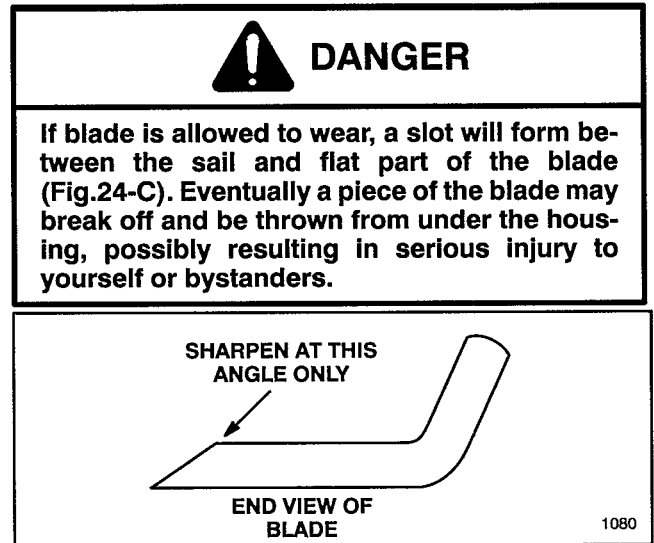

Figure 25
2. Examine cutting edges of all blade(s). Sharpen the cutting edges if they are dull or nicked. Sharpen only the top of the cutting edge and maintain the original cutting angle to make sure of sharpness (Fig. 25). The blade will remain balanced if same amount of metal is removed from both cutting edges.